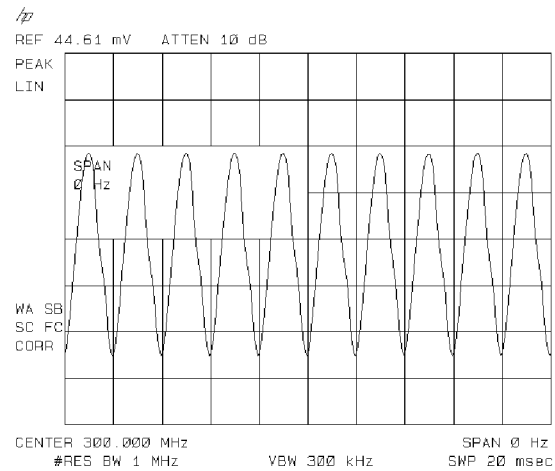

Figure 6-27. Measuring Modulation In Zero Span
5. To select zero span, either press **SPAN**, 0 **Hz** or press **ZERO SPAN**. See Figure 6-27. If the modulation is a steady tone (for example, from a signal